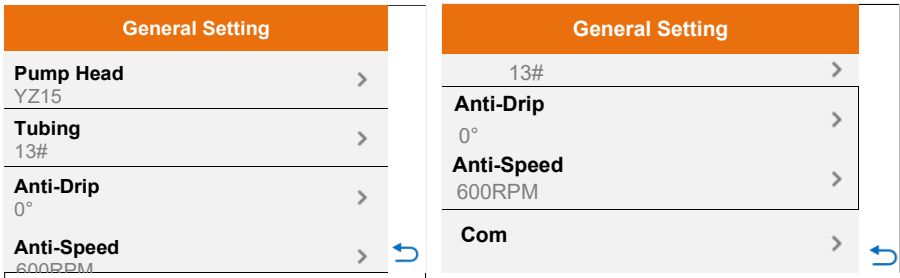

Figure 24 General Settings
**Setup** - To set up the general settings, swipe up and down to view the menu, details as in Figure 24.